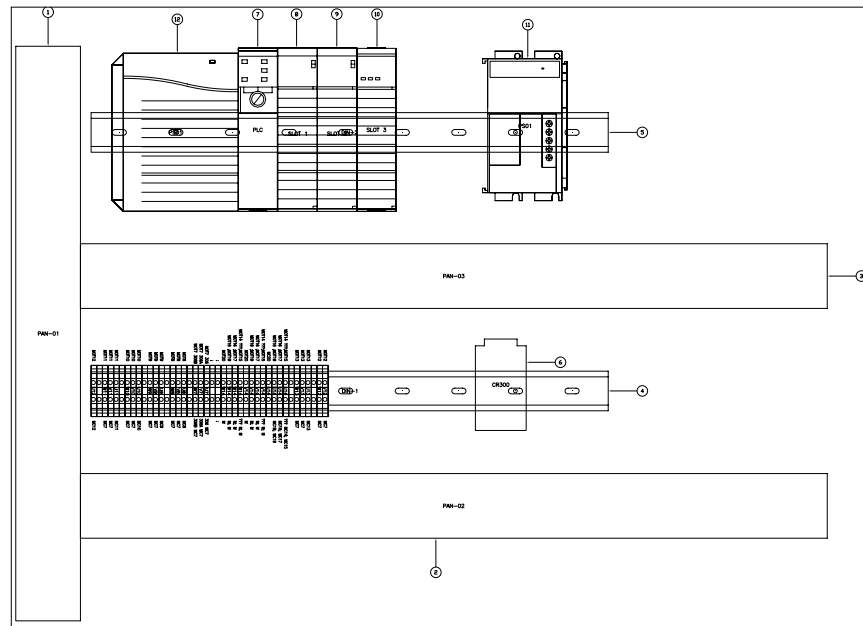

Figure P2-17 Balloons added to all components
10. When you complete adding balloons to the components, press ENTER to exit the command. Figure P2-17 shows the balloons inserted in all components.